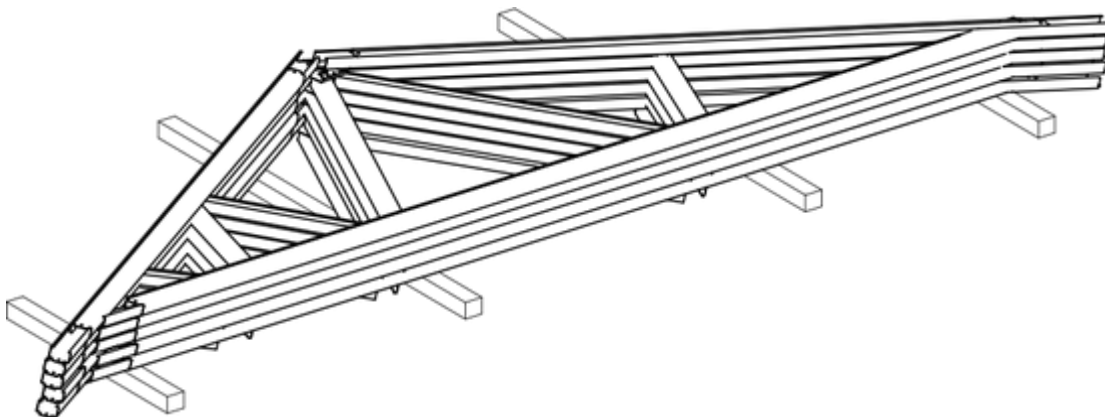

Figure 2.2: Trusses stacked horizontally
1. If the trusses are stored horizontally, as shown in **Figure 2.2**, the blocking should be at 2.0m to 2.5m centres or as required at joints, to prevent bending of the trusses. Avoid using copper, chemically treated timber or EPDM based materials as blocking.